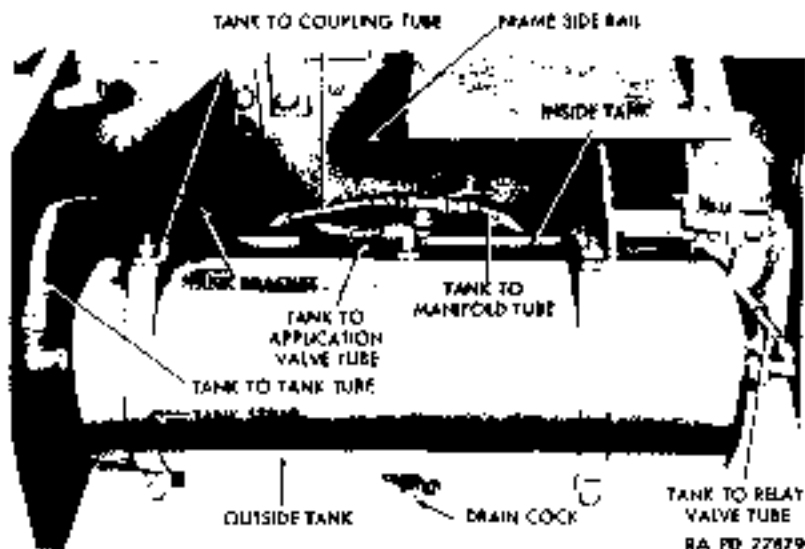

Figure 64 - Air Reservoir Tanks Installed
(1) **DESCRIPTION** (fig. 64). The two reservoir tanks are attached to brackets on the outside of main frame right-hand side rail between cab and tool box. Each tank is equipped with a drain cock, and a tank-to-tank tube connects the tanks together at the rear. Their function is to store compressed air to operate service brakes and air accessories.
(2) TABULATED DATA.
b. **Removal** (fig. 64). Open drain cock on lower center of tank, and allow all air to escape. Disconnect all tubing from fittings on tank. Remove the two nuts, lock washers, and clamp bolts which clamp tank straps together under tank. Spread straps, and lower tank from brackets.
c. **Installation** (fig. 64). Place tank in position under its brackets. Install the two clamp bolts, lock washers, and nuts which clamp tank straps together under tank, and connect tubing to fittings on tank.